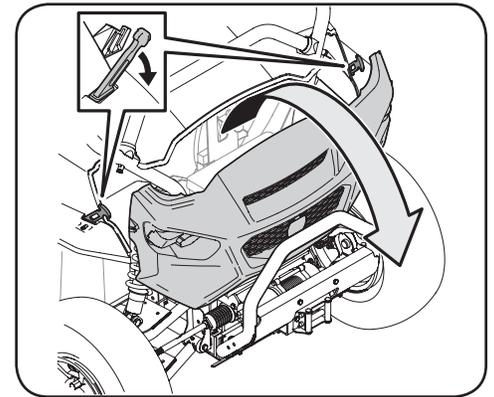

Figure 4-6
- Unhook the hood latches and lower the hood. See Figure 4-6.